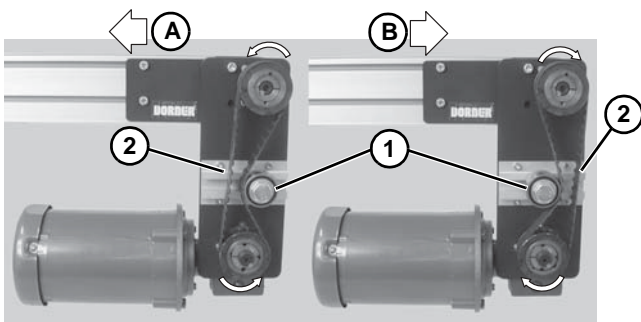

Figure 13
9. Depending on conveyor belt travel (direction A or B), locate timing belt tensioner (**Figure 13, item 1**) as shown. Tension timing belt to obtain 1/8" (3 mm) deflection for 6 lb (3 Kg) of force at timing belt midpoint (**Figure 13, item 2**). Tighten tensioner screw to 110 in-lb (12 Nm).
3. Depending on conveyor belt travel (direction A or B), locate timing belt tensioner (**Figure 13, item 1**) as shown. Tension timing belt to obtain 1/8" (3 mm) deflection for 6 lb (3 Kg) of force at timing belt midpoint (**Figure 13, item 2**). Tighten tensioner screw to 110 in-lb (12 Nm).
5. Depending on conveyor belt travel (direction A or B), locate timing belt tensioner (**Figure 13, item 1**) as shown. Tension timing belt to obtain 1/8" (3 mm) deflection for 6 lb (3 Kg) of force at timing belt midpoint (**Figure 13, item 2**). Tighten tensioner screw to 110 in-lb (12 Nm).